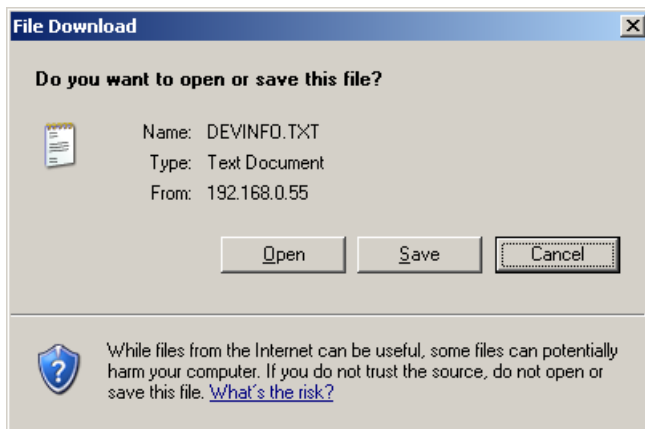

Figure 7-11 File Download Dialog
- ✧ In the **File download** dialog (see Figure 7-11), click the **Open** button.